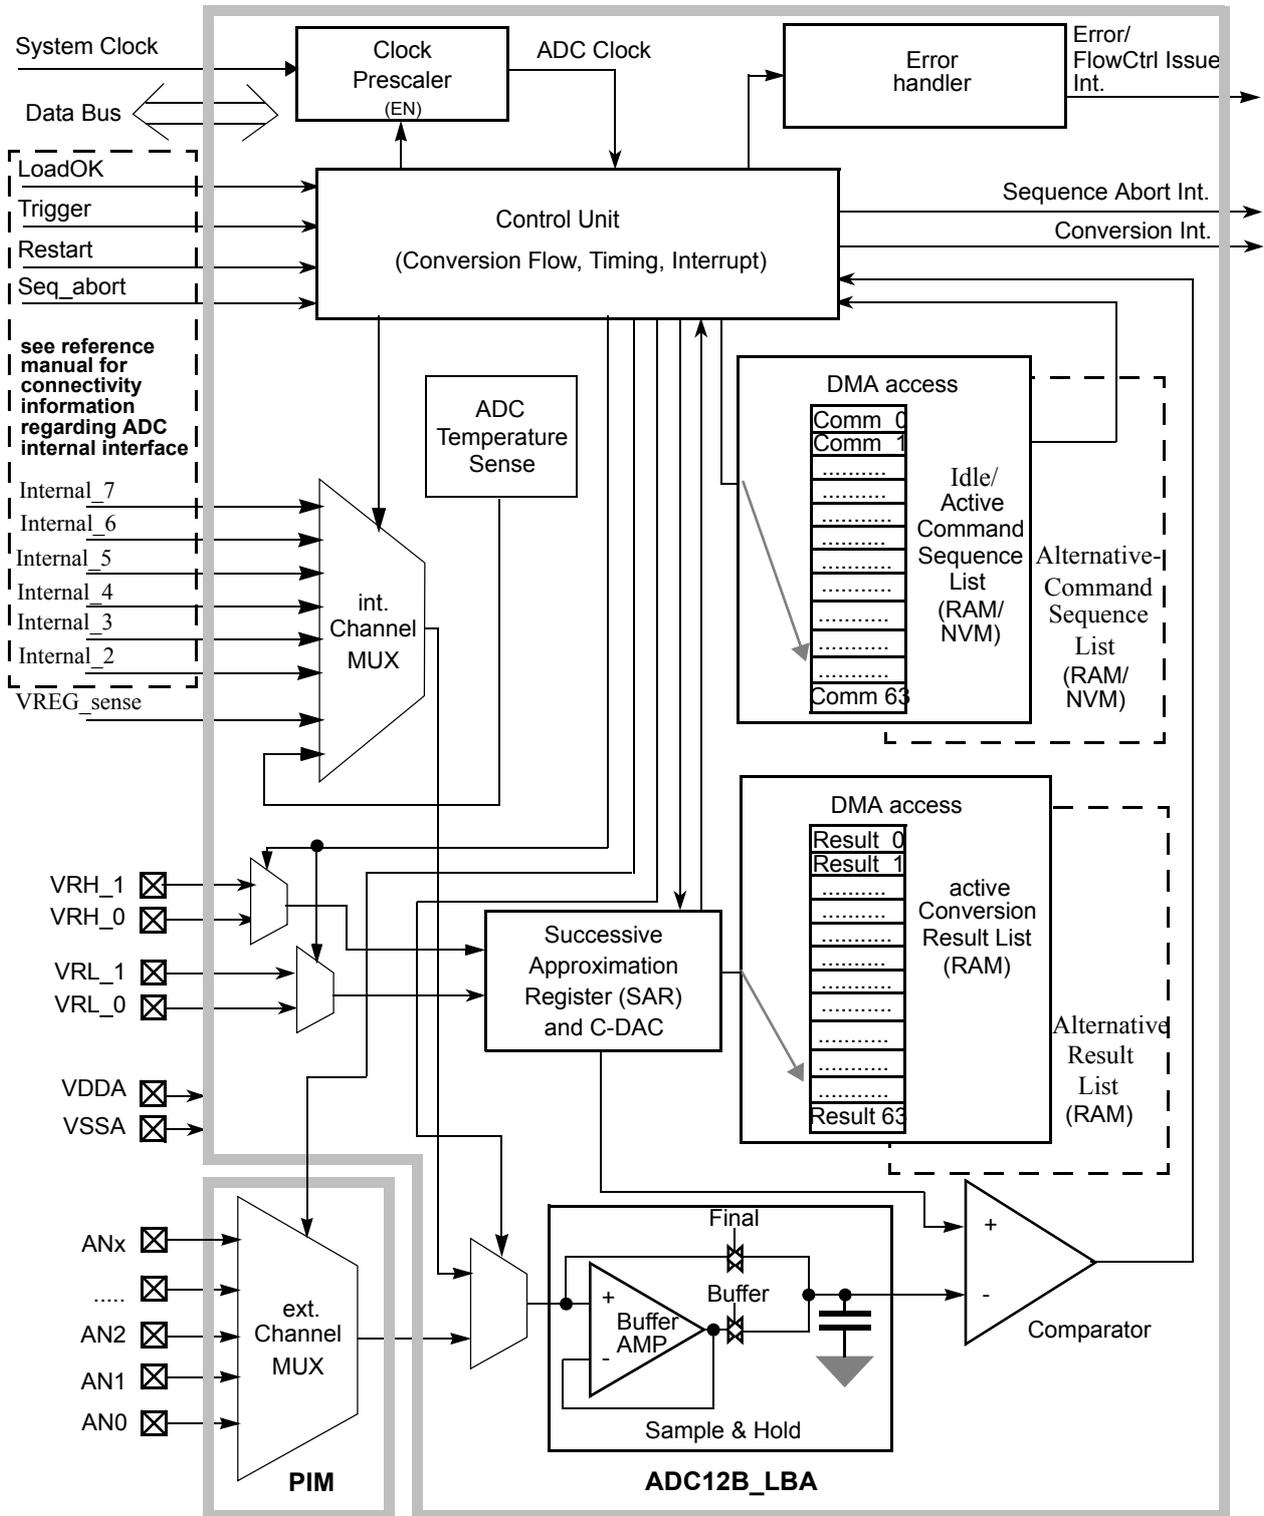

Figure 10-2. ADC12B\_LBA Block Diagram
- Via internal interface Signals (Trigger, Restart, LoadOK, and Seq\_Abort; see also Figure 10-2). Each Interface Signal is associated with one conversion flow control bit.
The four bits of register ADCFLWCTL reflect the captured request and status of the four internal interface Signals (LoadOK, Trigger, Restart, and Seq\_abort; see also Figure 10-2) if access configuration is set accordingly and indicate event progress (when an event is processed and when it is finished).
- Provides up to eight device internal channels (please see the device reference manual for connectivity information and Figure 10-2)
- Individual selectable VRH\_0/1 and VRL\_0/1 inputs on a conversion command basis (please see Figure 10-2)